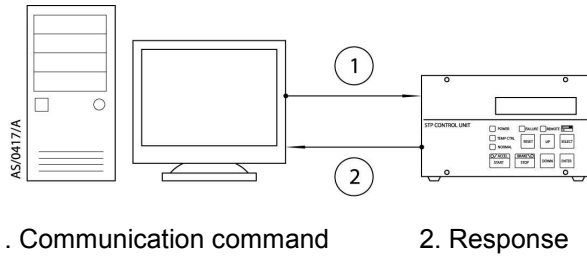

Figure 41 - PC to SIM communication
The STP serial communication protocol enables the SIM to receive the communication command (Figure 41, item 1), transmitted from the PC and send a response (Figure 41, item 2), following the communication command. Each communication command from the PC transmits a text message (ASCII text) assigned to each function. Communication commands include control commands (STP pump operation commands, and so forth) and query commands (read-out of STP pump operation mode, and so forth).